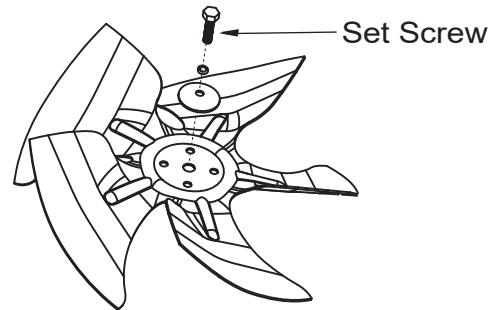

Figure 7 - Set Screw Location
3. Use a hex wrench to loosen the set screw, which holds the fan to motor shaft (see Figure 7). Remove fan, taking care not to damage the fan blade pitch.
3. Use a hex wrench to loosen the set screw, which holds the fan to motor shaft (see Figure 7, page 8). Remove fan, taking care not to damage the fan blade pitch.